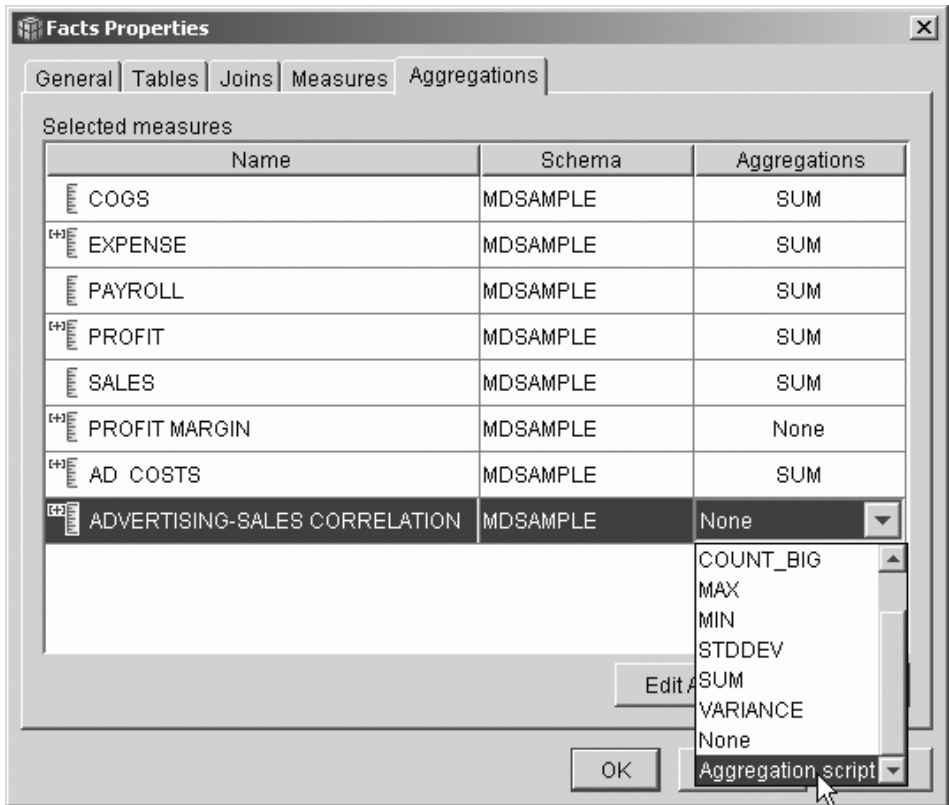

Figure 4. Aggregations page of the Facts Properties window
5. On the Aggregations page, click the aggregation function for the **ADVERTISING-SALES CORRELATION** measure and select **Aggregation script**, as shown in Figure 4 on page 9. The Aggregation Script Builder window opens.